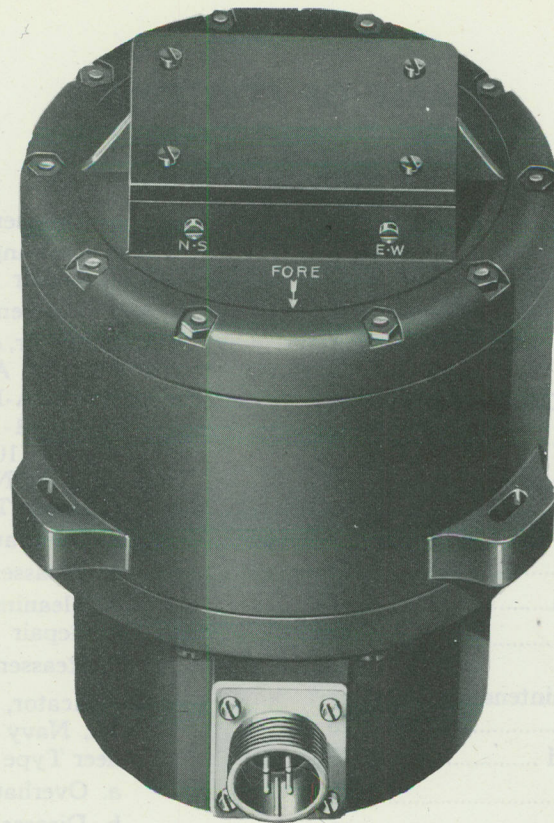

Figure 1—Three-Quarter View—Transmitter—Type AN 5730-3
1. GENERAL. (See figures 1, 2 and 2A.)